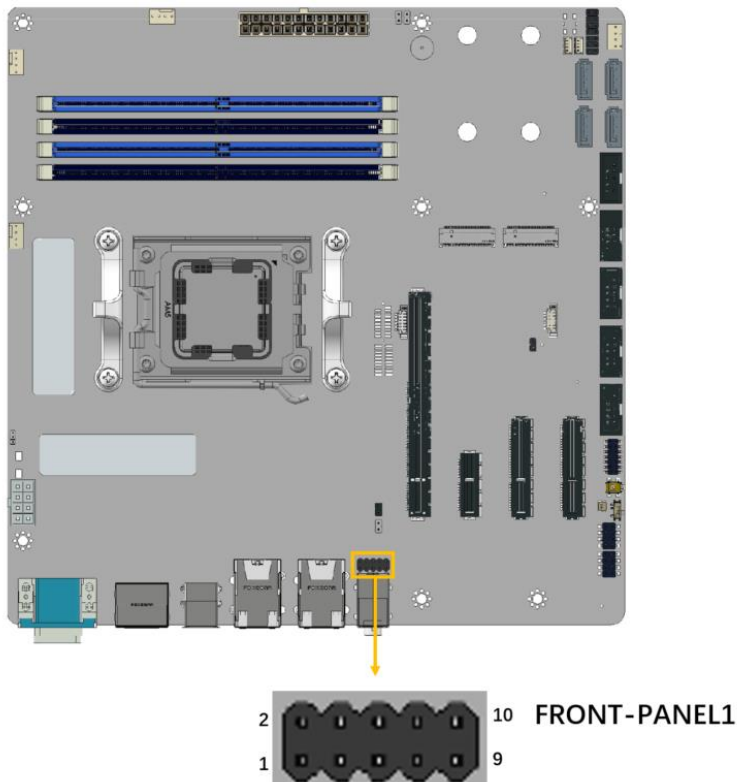

Figure 4-6: Audio Connector Location
- CN Location:** See Figure 4-6